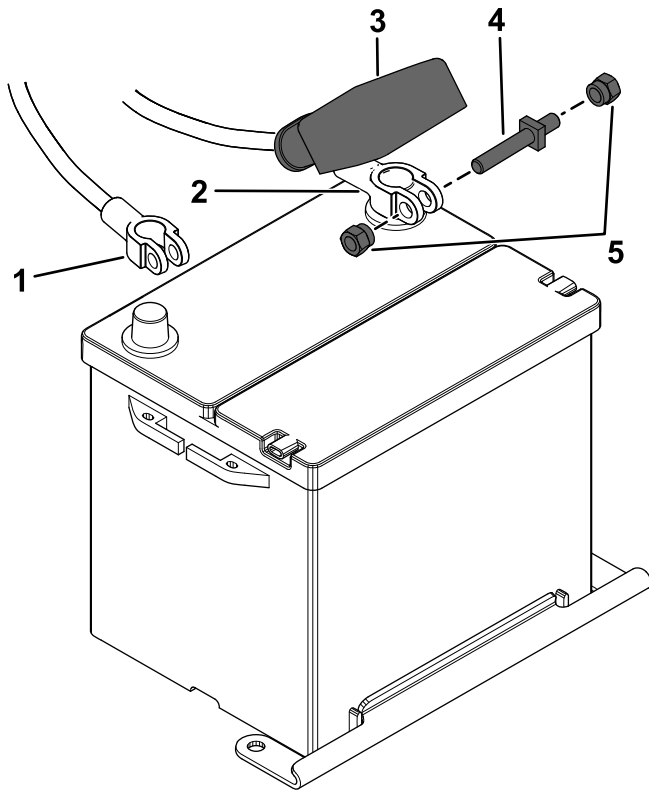

Figure 76
1. Disconnect the battery cables (Figure 76).
2. Connect the battery cables (Figure 76).